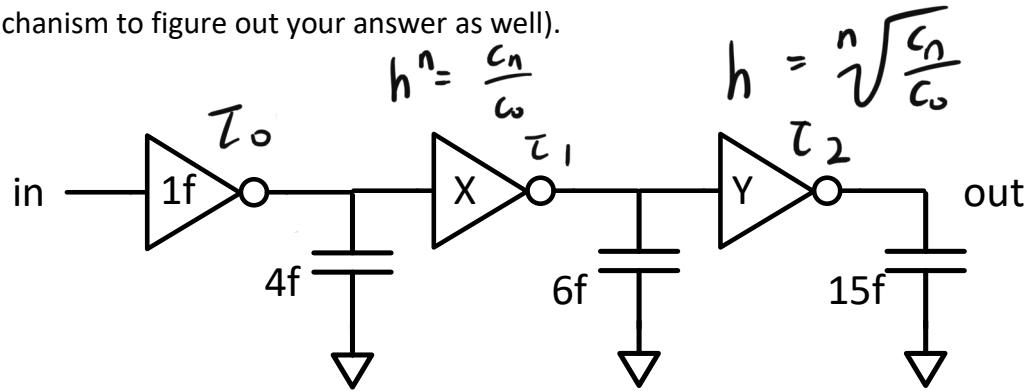

Figure 8
9. [12 points] Consider the inverter cascade in Fig. 8. Use the delay formulation of $\tau = R_i C_{i+1}$ to figure out inverter input capacitance assignments for x and y that will minimize the delay through the chain from **in** to **out**. Note that the standard geometric formula does not apply because the wire loading on the inverters is too large to be ignored. (Hint: Formulate the problem using first principles and then use the same maximization/minimization approach. If you really must, or have a deep aversion for evaluating derivatives, you're welcome to use python/perl/Excel-solver/Matlab or pretty much any solver mechanism to figure out your answer as well).